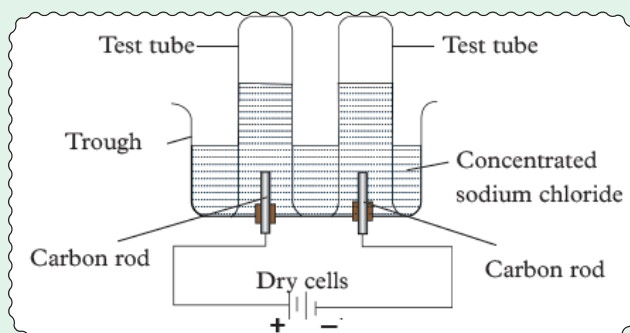

Figure 7.2.3: Electrolysis of brine
- Set up the apparatus as shown in the figure 7.2.3